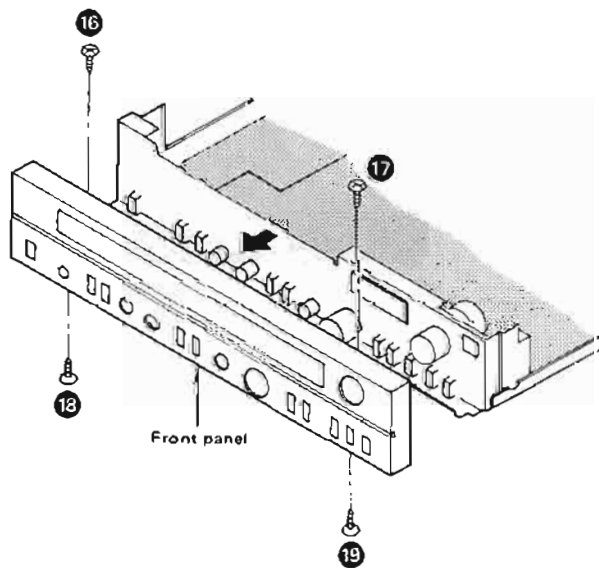

Fig. 3
2. Remove the 4 setscrews (Fig. 3: ⑯ ~ ⑲) of the front panel.